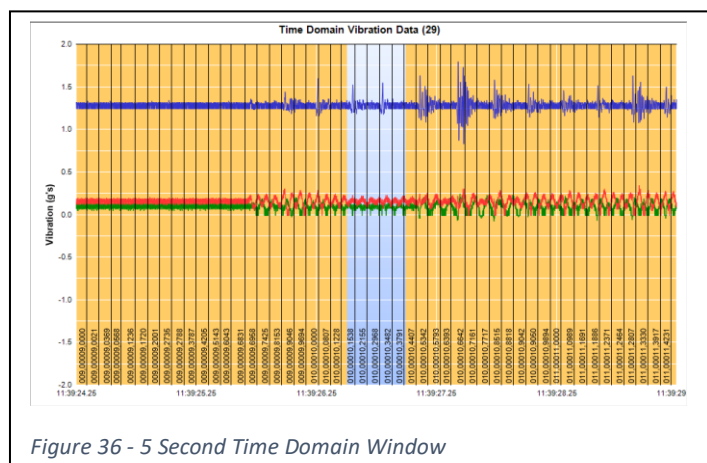

Figure 36 - 5 Second Time Domain Window
Figure 36 shows the same time domain data over a five (5) second display window. The blue background area of the graph is the same 0.5 second of time domain data seen above. The orange bands now show 2.25 seconds of time domain data before and after this section.